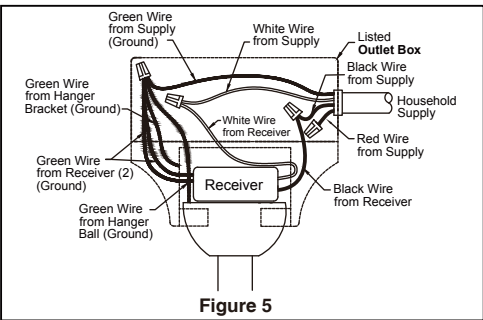

Figure 5
5. Thread downrod into the downrod support on top of the motor. Install the clevis pin by aligning the holes in the downrod support with holes in the downrod. Secure clevis pin with hairpin clip. Tighten the two set screws with nuts in the downrod support. (Figure 5)
4. After connections have been made, put the white and green leads to one side and the black leads towards the other side, the connection should be turned upward and carefully push leads into the outlet box. The wires should be spread apart with the grounded conductor and the equipment-grounding conductor on one side of the outlet box and the ungrounded conductor on the other side. (Figure 5)
- ☐ 5. To set the remote code same positions as the receiver with a small screwdriver or ball point pen (neither included), slide dip switches firmly up or down. (Figure 5)